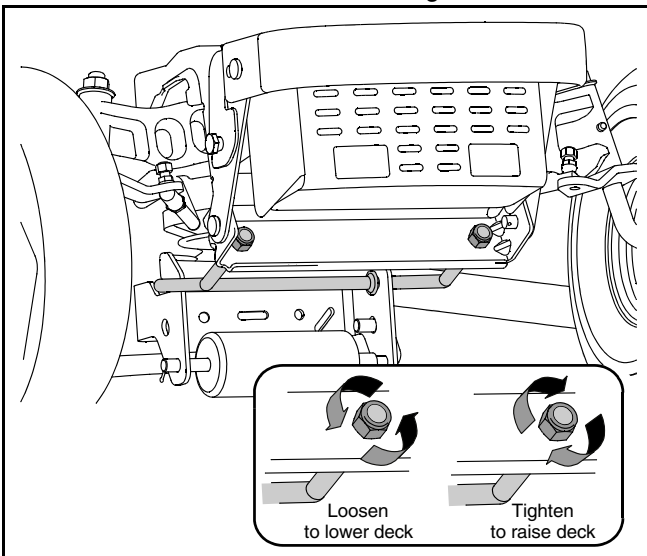

Figure 9
- Locate the two lock nuts on the front side of the deck's stabilizer bracket. See Figure 9.